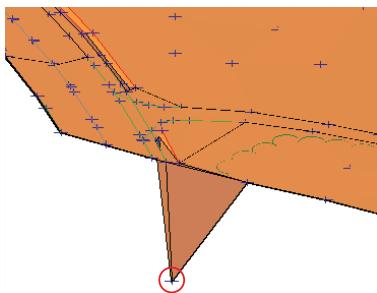

FIGURE 4.14 3-D view of incorrect surface point
5. When prompted to select a point, click the point in the 3-D view that is located well below the other points (see Figure 4.14). Press Enter.